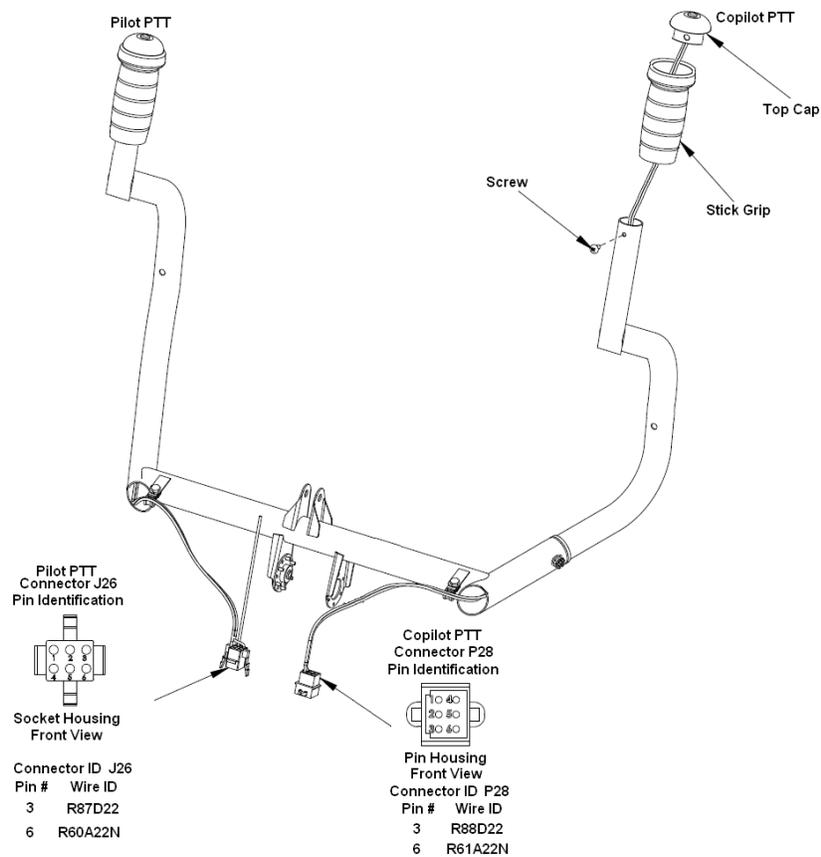

Figure 27-61 Details of the Pilot's/Copilot's Push-To-Talk Switch Assembly
Perform this procedure to remove the push-to-talk switch assembly. This procedure can be used for either the pilot's or the copilot's push-to-talk switch assembly. Refer to Figure 27-61 for details of this procedure.
Perform this procedure to install the push-to-talk switch assembly. This procedure can be used for either the pilot's or the copilot's push-to-talk switch assembly. Refer to Figure 27-61 for details of this procedure.
6. Insert the wire and pins in to the connector shells as shown in Figure 27-61.